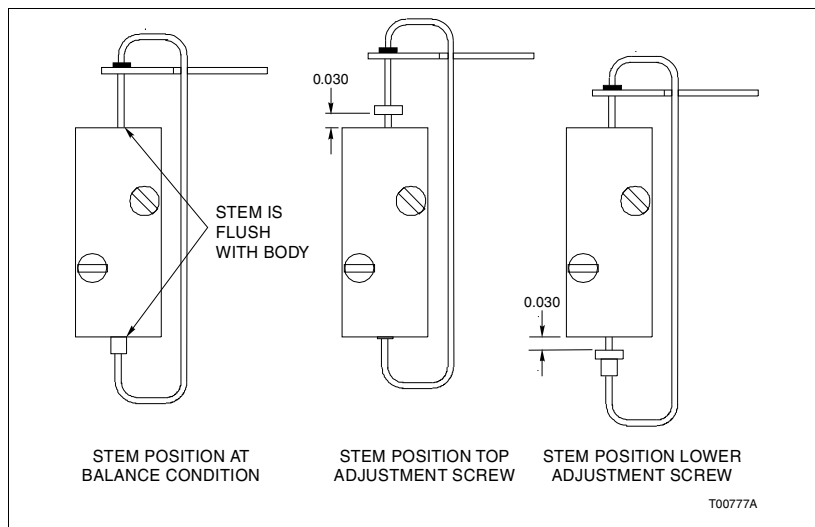
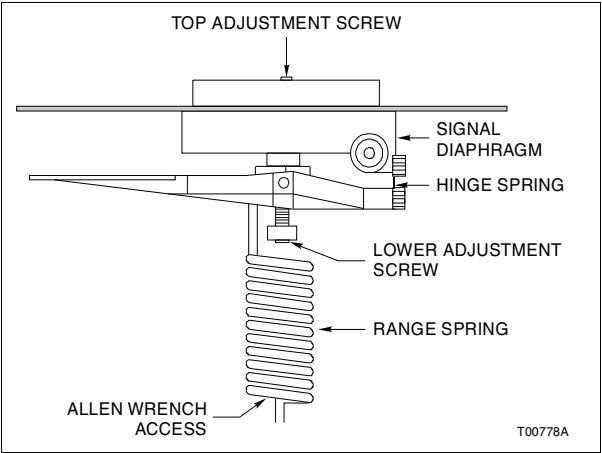

Figure 8-3. Pilot Valve Measurement for Maximum Speed
Figure 8-4. Stroke Adjustment Screws
When the valve stem is in the balance position, as shown in Figure 8-3, the stem is flush with both ends of the valve body. There are two adjustment screws to adjust. Use the following procedure to check and adjust the travel of the valve stem:
4. Use the long  $\frac{3}{32}$ -inch Allen wrench, adjust the top adjustment screw (Fig. 8-4) appropriately until the measurement matches the value shown in Figure 8-3. Figure 8-3 also shows the way the measurement is taken.
6. Use the long  $\frac{3}{32}$ -inch Allen wrench to adjust the lower stroke adjustment screw (Fig. 8-4). Adjust the screw until the measurement matches the value shown in Figure 8-3.